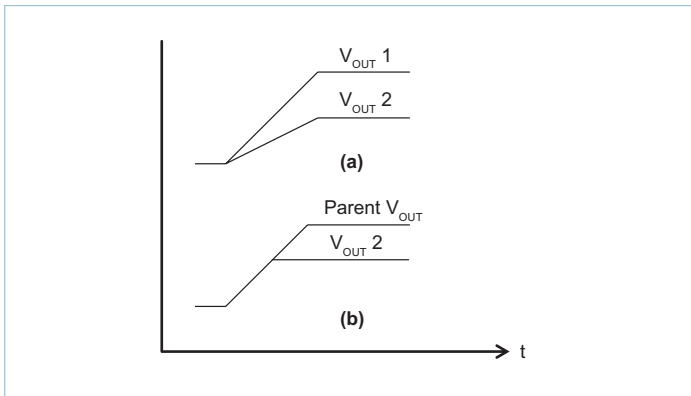

Figure 28 — PI33xx-x1 tracking methods
There is typically either proportional or direct tracking implemented within a design. For proportional tracking between several regulators at start up, simply connect all devices' TRK pins together. This type of tracking will force all connected regulators to start up and reach regulation at the same time (see Figure 28(a)).
All connected regulators' soft-start slopes will track with this method. Direct tracking timing is demonstrated in Figure 28(b). All tracking regulators should have their Enable (EN) pins connected together to work properly.